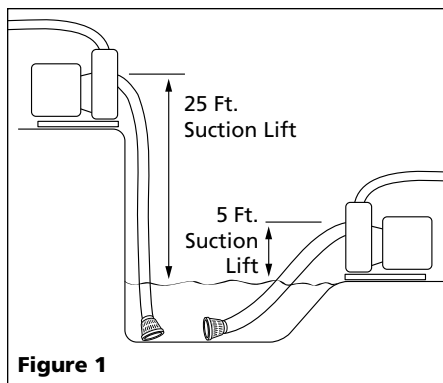

Figure 1
1. The pump should be placed as close as possible to the liquid being pumped. A pump with 25 feet of suction lift will not remove water as quickly as a pump with 5 feet of suction lift (Figure 1). Additionally, priming time for a high suction lift is very long. Suction lifts greater than 20 feet are not recommended.